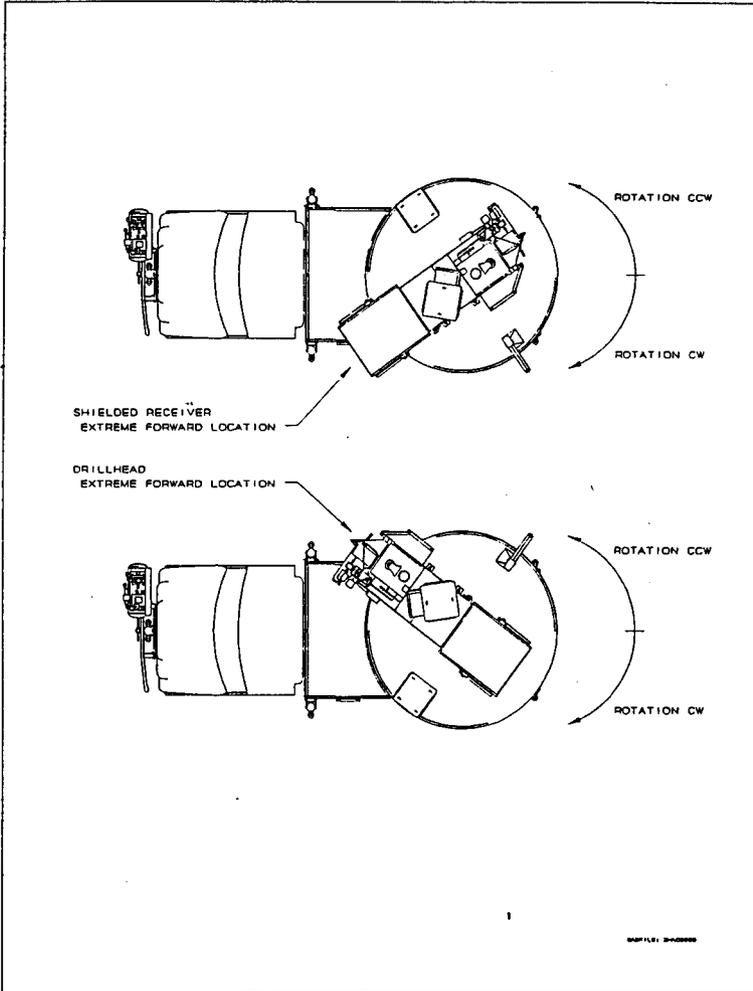

Figure 8) Platform Rotation - Traversed Drill Rig
7.3.1.12.1 With shielded receiver fully extended over the rear of the truck, ROTATE the platform CW to position the shielded receiver at the left side extreme forward location (just prior to contact with truck body/platform rails, as depicted at top of Figure 8).
7.3.1.14.1 With drill head fully extended over rear of truck, ROTATE the platform CCW to position the drill head at the right side extreme forward location (just prior to contact with truck body / platform rails, as depicted at bottom of Figure 8).